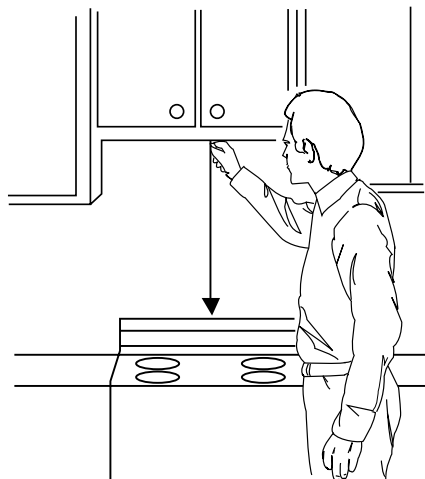

Figure 24
1. Using a plumb line and measuring tape, find and mark the vertical center line on the back wall, as in Figure 24.
NOTE: Be sure the minimum width is 30 inches and the distance from the top of the wall template to the range or counter top is at least 30 inches. See Figure 24.